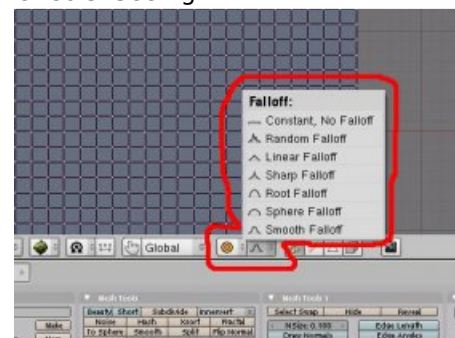

Fig 12: Proportional editing for variations.
Now you have your basic track, but it is a little boring. I'm going to add a few hills and valleys using the Proportional edit tool (O). You have several choices of "falloff" to choose from, and I'll leave it to you to decide which one you want. In fact mix and match them for different effects. See fig 12.